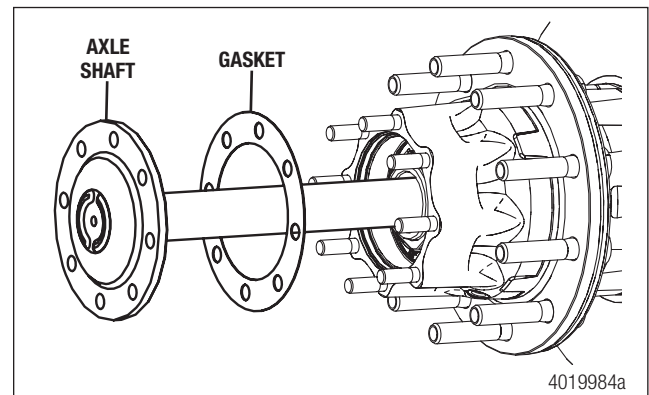

Figure 10
- b. Install a new gasket over the studs and flat against the hub. Figure 10.